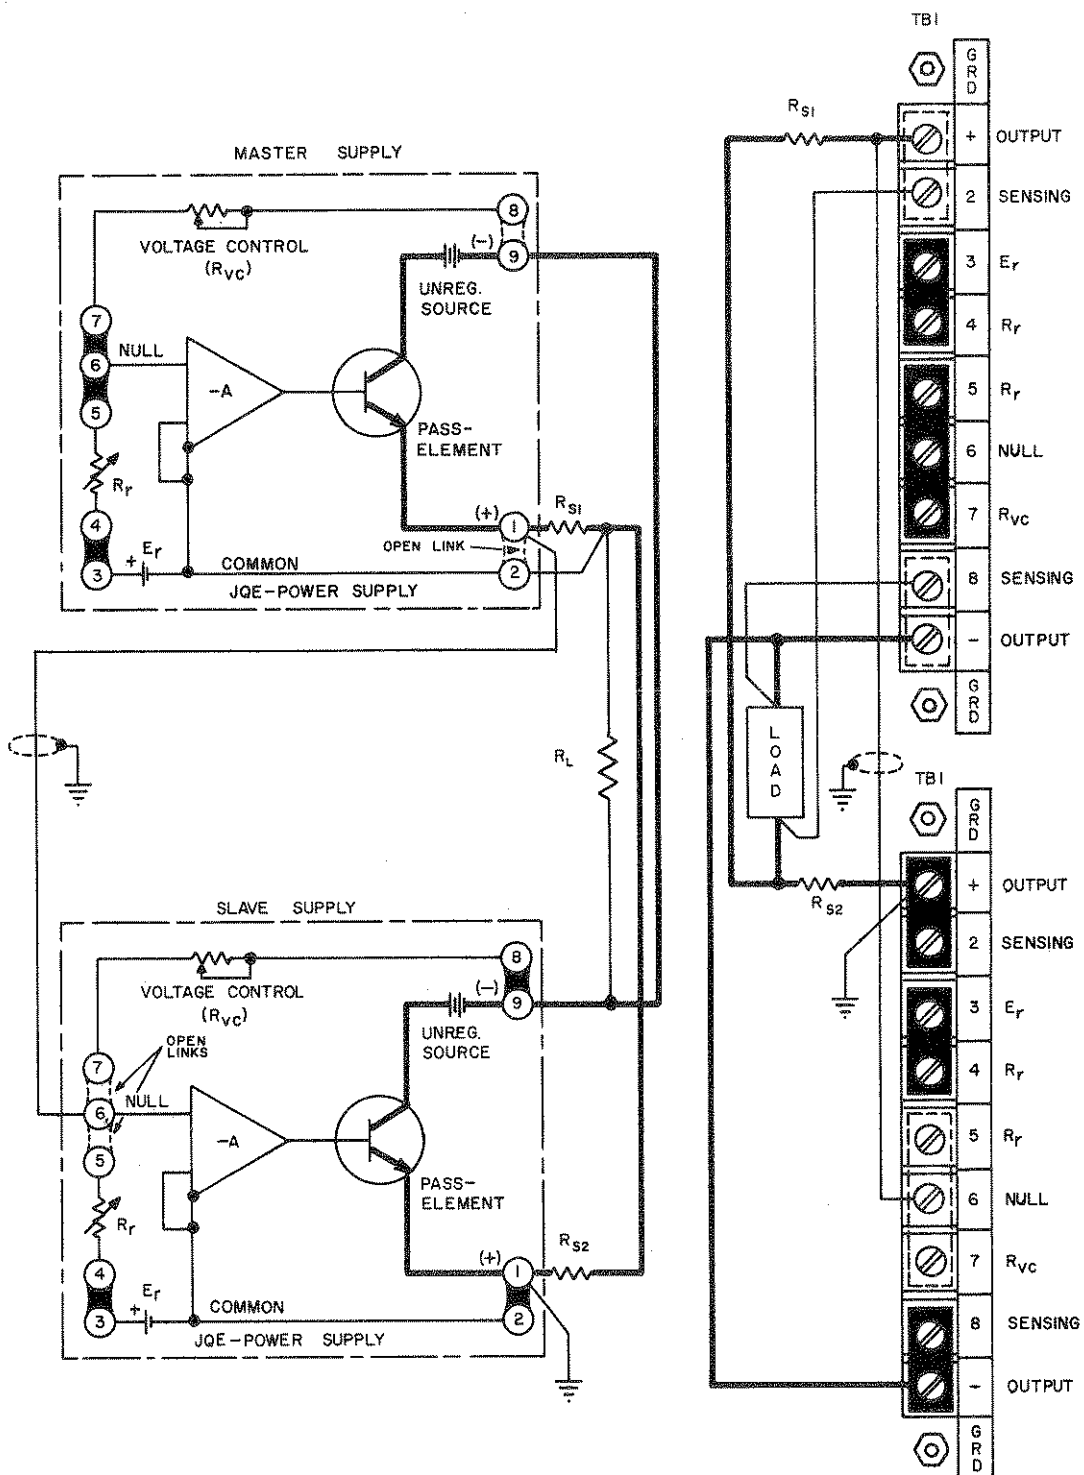

FIG. 3-15 MASTER-SLAVE PARALLEL CONNECTION OF JQE POWER SUPPLIES
3-44 MASTER-SLAVE PARALLEL OPERATION. Kepco Power Supplies may be paralleled if the output current from a single supply is not sufficient for the application at hand. With the parallel connection shown in FIG. 3-15, the total output current of the parallel supplies may be controlled from a single "Master" supply. To operate the parallel supplies in the "Master-Slave" connection, sensing resistors of equal value must be selected (R_{S1} , R_{S2} in FIG. 3-15) such that the voltage drop across them is about 0.1 to 0.25 volts at the output current of interest. The *sum* of the voltage drops across the load wire with the sensing resistor in series should *never exceed 0.5 volts* at the maximum desired operating current. If sensing resistors of the proper value are not available, the resistances of the load wires may be used to establish the necessary voltage drops. In this case, the load wires should be trimmed such that *equal voltage drops* are established in the lead from the "Master" and that from the "Slave" supply. Load wires should in general be of as heavy a wire gauge as practicable. Twisting of the load wires, as well as of the error sensing leads from the "Master" supply (although *not* shown in FIG. 3-15) is recommended.
- Connect supplies as shown in FIG. 3-15, keeping load and error sensing leads as short as possible. Use shielded wire for the connection from terminal (2) of the "Master" to terminal (6) of the "Slave" unit.